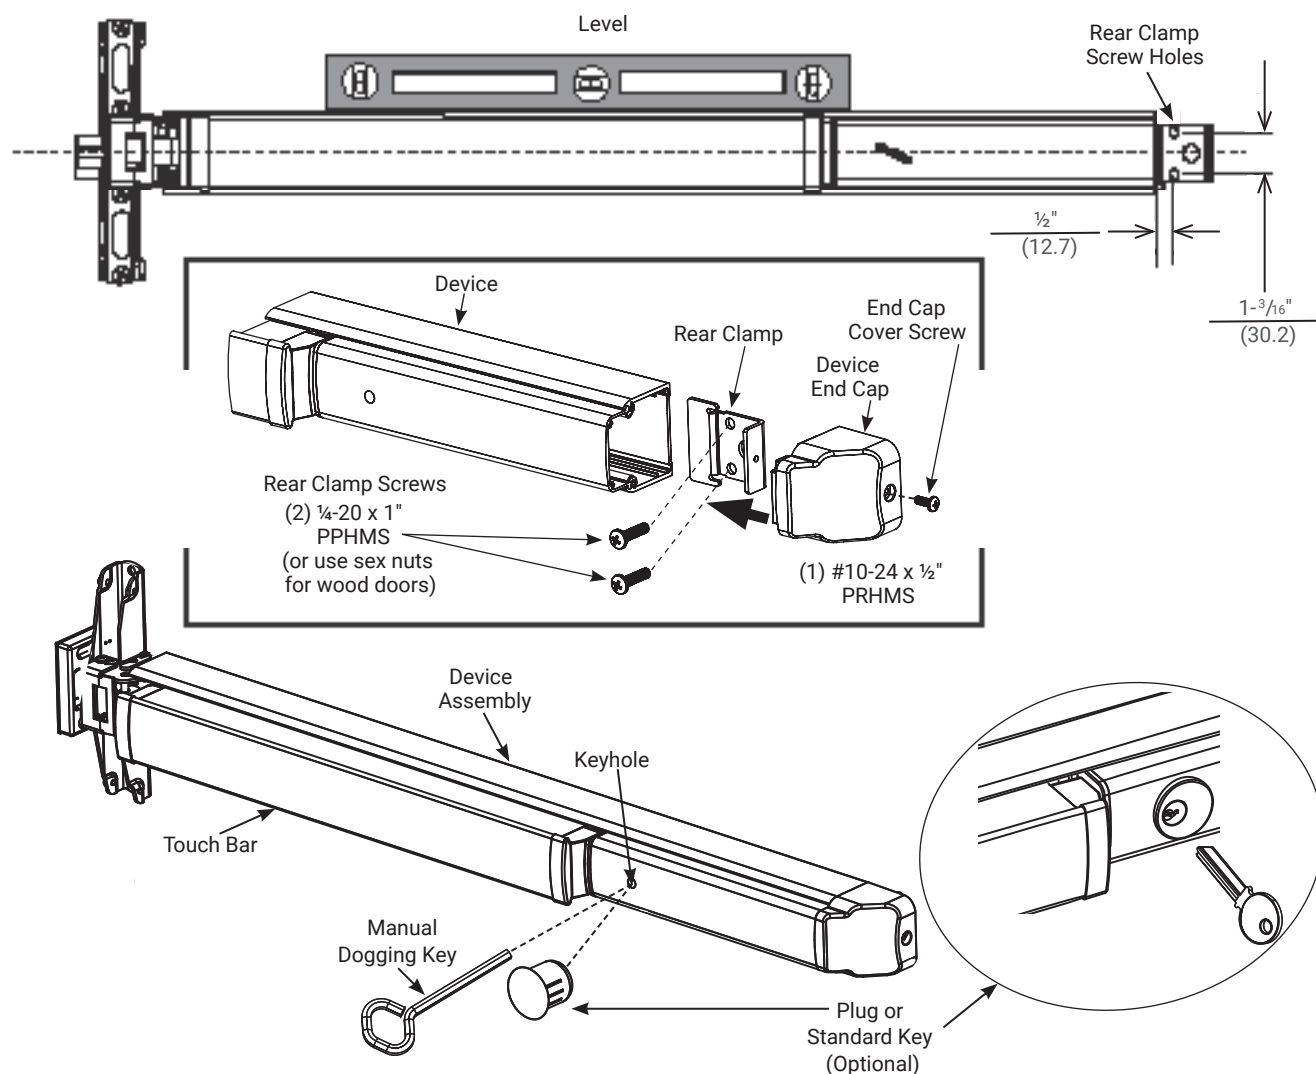

Figure 6: Install Rear Clamp & End Cap
1. With the device leveled, locate rear clamp holes and mark (ensure rear clamp is pushed flush against device). Figure 6.
2. Using the rear clamp as a template, mark and drill and tap holes for two (2) $\frac{1}{4}$ -20" screws.
4. Slide end cap in place and secure with one (1) #10-24 x $\frac{1}{2}$ " (12.7mm) PRHMS.